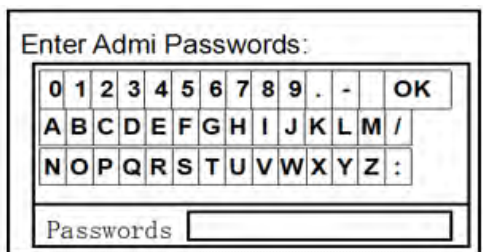

Figure 15
- On the **enter admi passwords** page (figure 15).
- On the **enter adm passwords** page (figure 15).